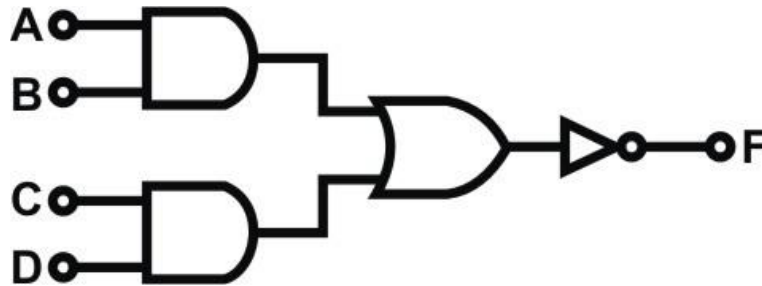

Figure 1.19: AOI gate.
AND-OR-INVERTER (AOI) gates consist of two AND gates, one OR gate, and one INVERTER (NOT) gate. The symbol of an AOI gate is shown in Figure 1.19. The Boolean expression for the output F is  $F = (AB + CD)'$  ..... (1)